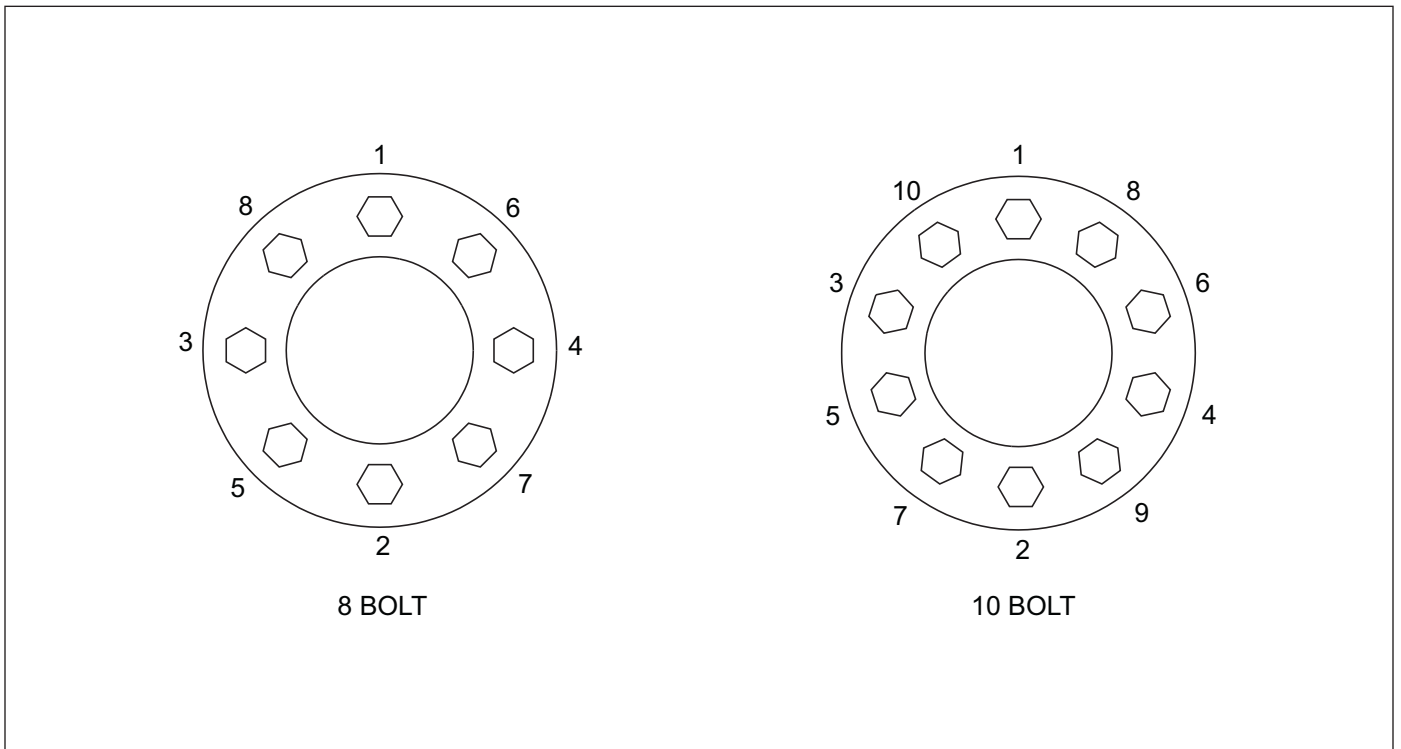

Figure 4-25: Stud Tightening Sequence
4. Install the flange nut and tighten to 50 ft-lbs using the sequence in **Figure 4-25**. Then tighten to full torque of 450 to 500 ft-lbs.